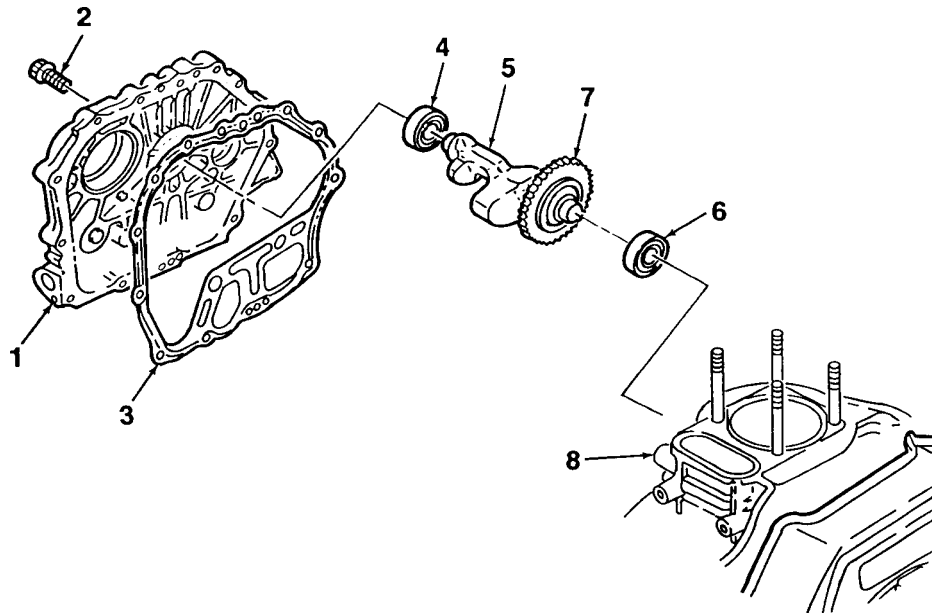
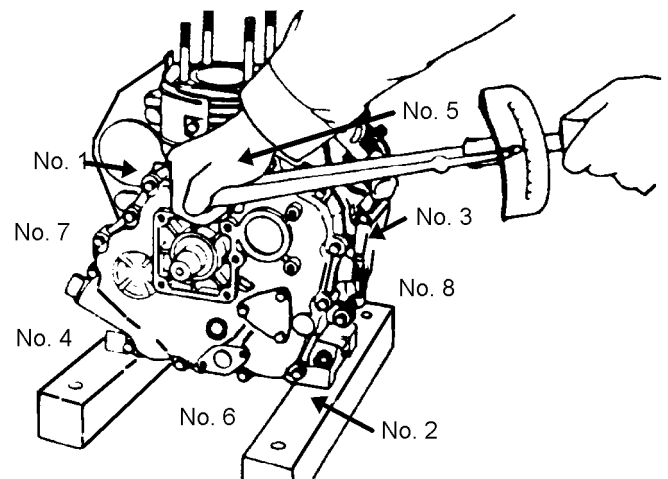

Figure 5-7. Balancer Shaft Assembly Removal
Figure 5-8. Crankcase Cover Bolt Tightening Sequence
1. Release crankcase cover (1, Figure 5-7) from cylinder block (8) by removing fifteen screw (2). Carefully pry crankcase cover from engine crankcase.
2. Remove cover gasket (3). Discard if damaged or deformed.
3. Carefully remove assembled balancer shaft (5) and gear (7) from cylinder block (8).
4. Remove bearing (4) from crankcase cover (1) and bearing (6) from cylinder block (8) only if replacement is required.
1. Inspect crankcase cover (1, Figure 5-7) for cracks, deformation, or obvious damage. Inspect mating surfaces for scratches, burrs, or blemishes. Replace cover if damaged.
2. Inspect cover gasket (3) for damage or deformation. Replace if damaged in any way.
3. Inspect gear (7) for broken, chipped, or worn teeth. Replace gear and camshaft (5) as an assembly if gear is damaged or worn.
1. If removed, install bearings (4, 6, Figure 5-7).
2. Carefully insert assembled balancer shaft (5) and gear (7) into cylinder block (8). Align match-marks on balancer gear and crankshaft gear, then press balancer shaft (5) into bearing (6).
3. Apply grease to lips of crankshaft oil seal (located in crankcase cover (1)).
5. Mate cover gasket (3) to cylinder block (8).
6. Mate crankcase cover (1) to cylinder block (8) and secure using fifteen screws (2). Tighten screws in criss-cross sequence as shown in Figure 5-8. Torque all screws to 14.5 to 16.6 ft-lbs. (200 to 230 kg-cm).